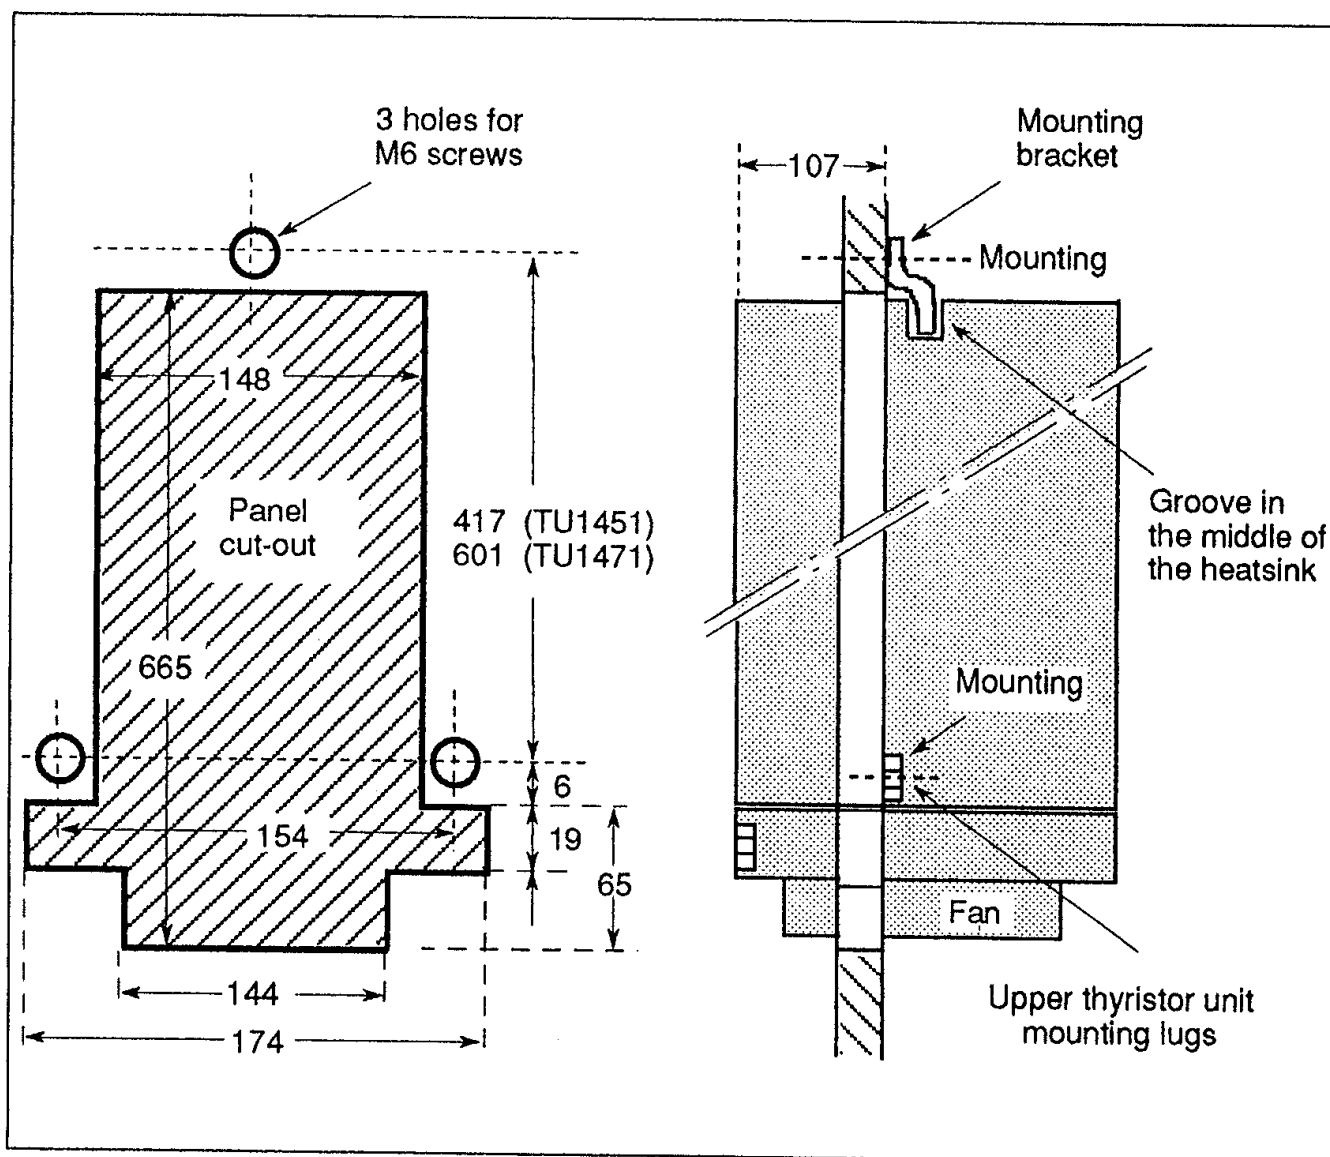

Figure 2-4 Thyristor unit drilling, cutting and mounting values (in mm)
- Fit the two **M6** screws in the cabinet, observing the drilling values given (figure 2-4).